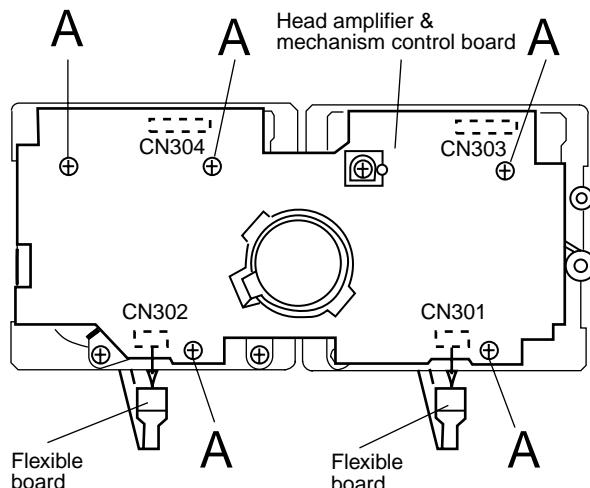

Fig.4
**■ Removing the head amp. and mechanism control P.C. board** (See Fig. 4)